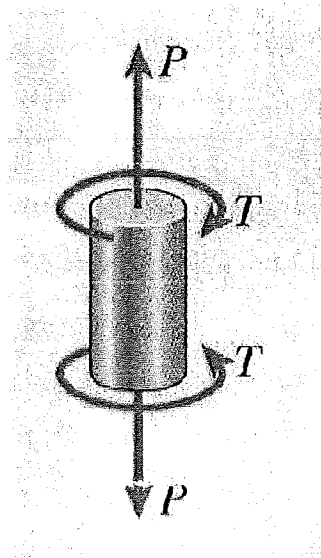

Figure 4
- [b] The rotor shaft of a helicopter drives the rotor blades that provide the lifting force to support the helicopter in the air. As a consequence, the shaft is subjected to a combination of torsion and axial loading (Figure 4). For a 50 mm diameter shaft, transmitting a torque  $T = 2.4 \text{ kN}\cdot\text{m}$  and a tensile force  $P = 125 \text{ kN}$ , calculate the maximum tensile stress, maximum compressive stress, and maximum shear stress in the shaft.